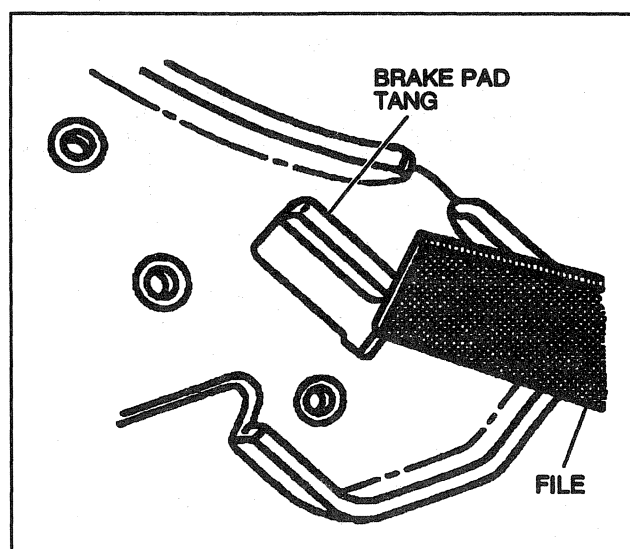

Figure 24—Filing Outer Brake Pad Tang
5. File the leading edge of the brake pad tang to aid in installing brake pad to caliper (Figure 24).